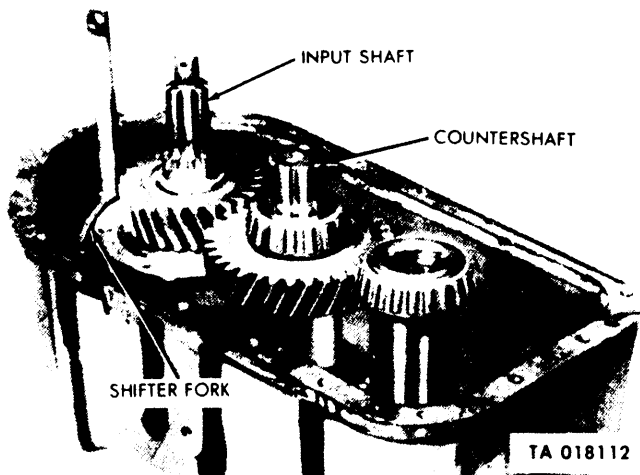

Figure 4-13. Shifter Fork, Input Shaft, and Countershaft.
p. *Shifter Fork, Input Shaft Assembly and Countershaft Assembly.* Using a soft pin and hammer, drive the input shaft loose. (See fig. 4-13.) Then lift the input shaft assembly, synchronizer assembly, fork assembly, and countershaft assembly from the transfer case.
*b.* Shifter fork, input shaft assembly, and countershaft assembly. (See fig. 4-13.)